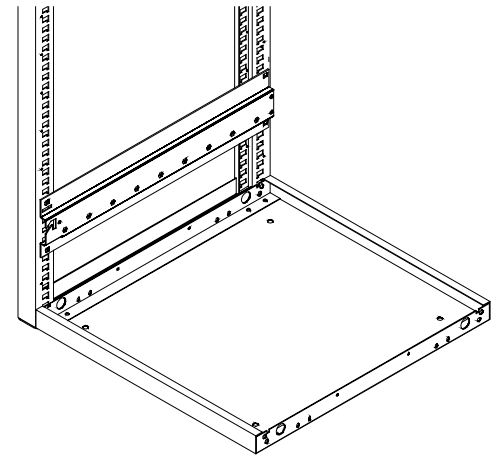

Figure 2 – leave 5 (approx. 5”) open slots between bottom panel & shelf track
- Refer to Figure 2. Install left shelf track (#1) at least five slots above the lower Universal Panel. Install by sliding tongues in the tracks into the slots in the Vertical Side Frame. Use a rubber mallet to tap the track firmly in place.